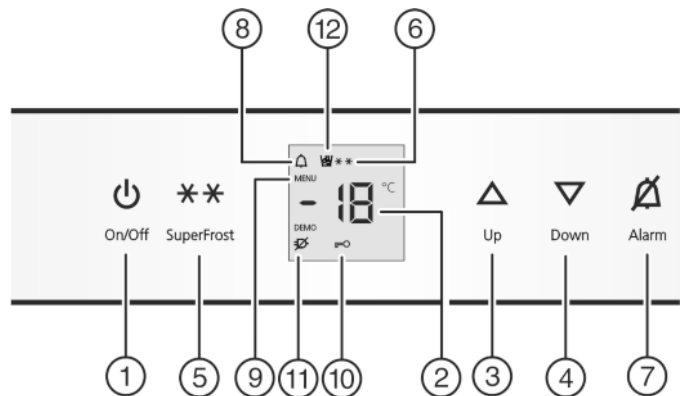

Fig. 2
- Press On/Off button Fig. 2 (1).
- ▶ To activate the setting mode: press SuperFrost button *Fig. 2 (5)* for about 5 s.
- ▷ The menu symbol *Fig. 2 (9)* shines.
- ▶ Briefly press the SuperFrost button *Fig. 2 (5)* to confirm.
- ▶ To activate the child lock, briefly press the SuperFrost button *Fig. 2 (5)*.
- ▷ The child lock symbol *Fig. 2 (10)* shines. **c** flashes in the display.
- ▶ to deactivate the child lock, briefly press the SuperFrost button *Fig. 2 (5)*.
- ▷ The child lock symbol *Fig. 2 (10)* goes out. **c** flashes in the display.
- ▶ To deactivate the set-up mode: press On/Off button *Fig. 2 (1)*.
- ▶ Press alarm button *Fig. 2 (7)*.
The temperature display and the alarm symbol *Fig. 2 (8)* flash at the same time.
The audible alarm is automatically silenced, the alarm symbol *Fig. 2 (8)* goes out and the temperature display stops flashing when the temperature is sufficiently cold again.
- ▶ To set the temperature higher: press Up button *Fig. 2 (3)*.
- ▶ To set the temperature lower: press Down button *Fig. 2 (4)*.